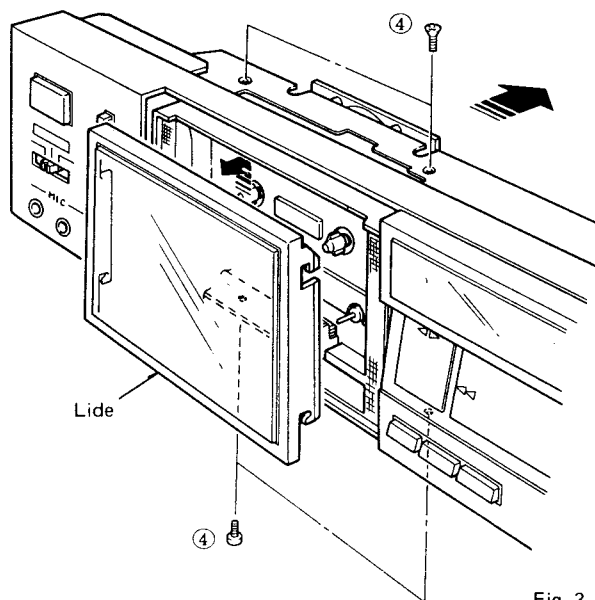

Fig. 3
- Remove 4 screws (④) in fig. 3.